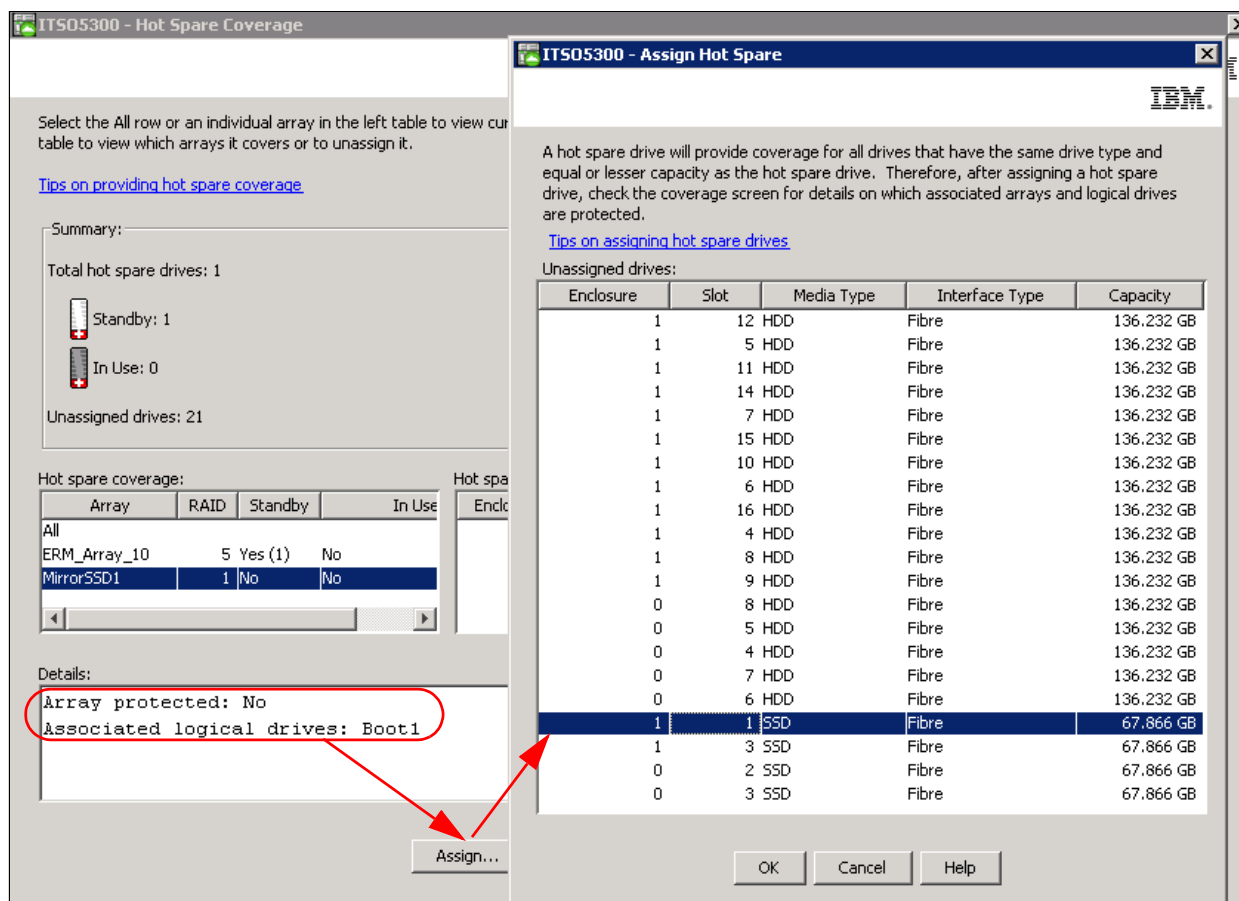

Figure 3-55 Assigning hot spare protection for an array
Make sure to use this window to check that all your arrays are protected. If they are not protected, implement complete hot spare protection for all the arrays, as shown in Figure 3-55.
3. To resolve this exposure, click the **Assign** option button. The Assign Hot Spare window opens, as shown in Figure 3-55.